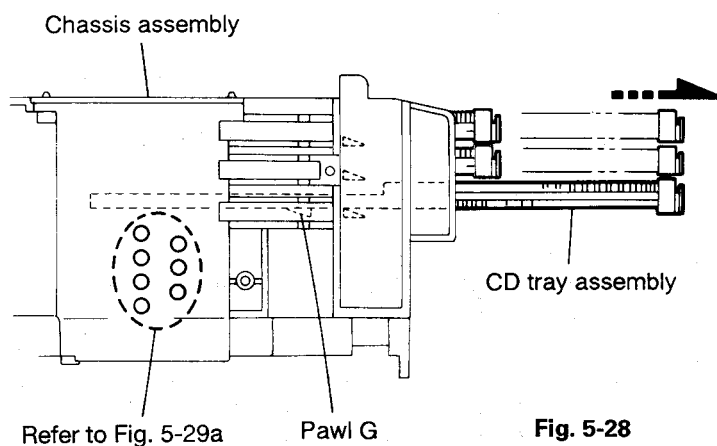

Fig. 5-28
11. Check whether the lifter unit stopper has been caught into the hole at the section (F) of CD tray assembly as shown in Fig. 5-28.